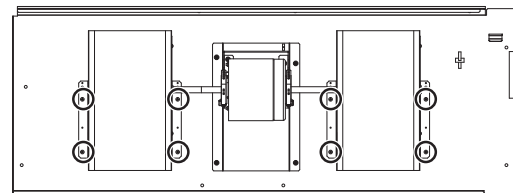

Fig.5
- (1) Remove the eight fixing screws on the fan case to remove it (Fig.5).